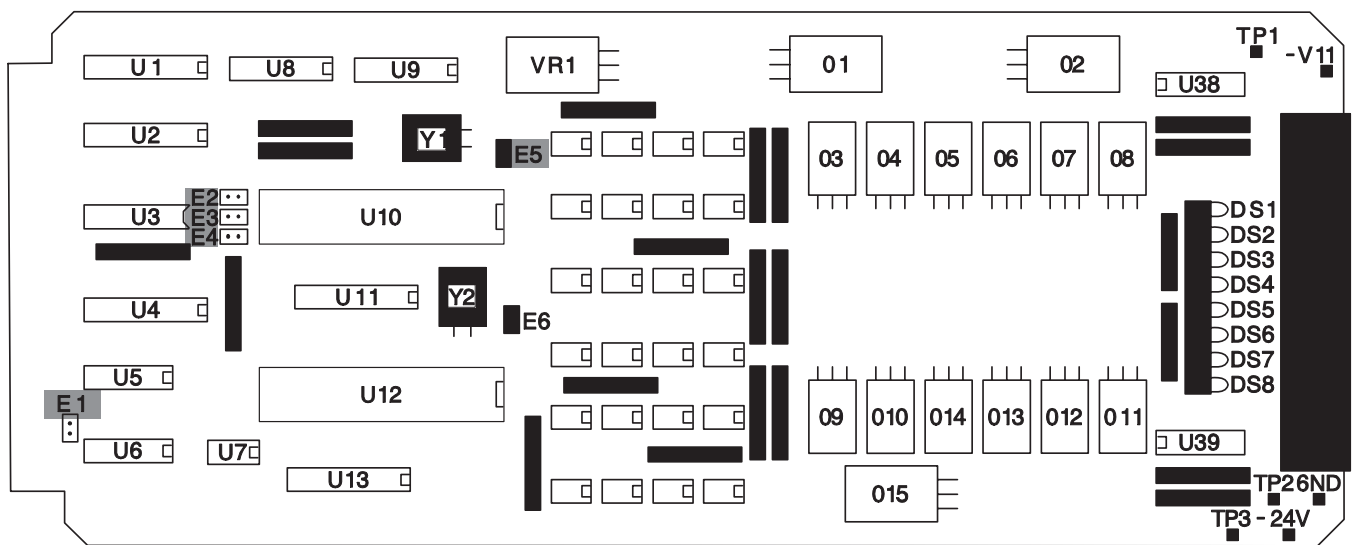

Figure 4.1 Motor Controller Board
**Figure 4.1** is a Motor Controller board diagram indicating the jumper locations (E1, E2, E3, E4 and E5).